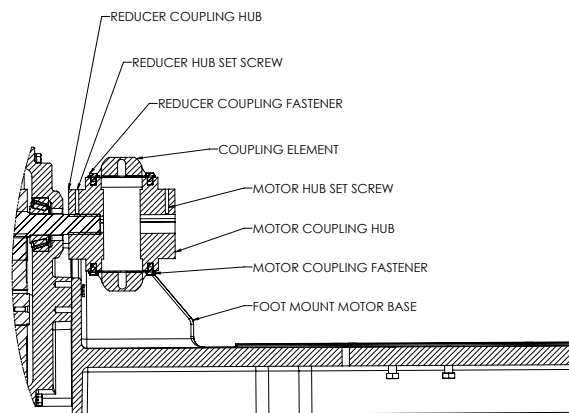

Figure 3 - Measurement to Axial Location of Hub
12. Finish installing the Raptor coupling per Figure 3. For coupling installation instructions, refer to the Dodge manual MN4062.